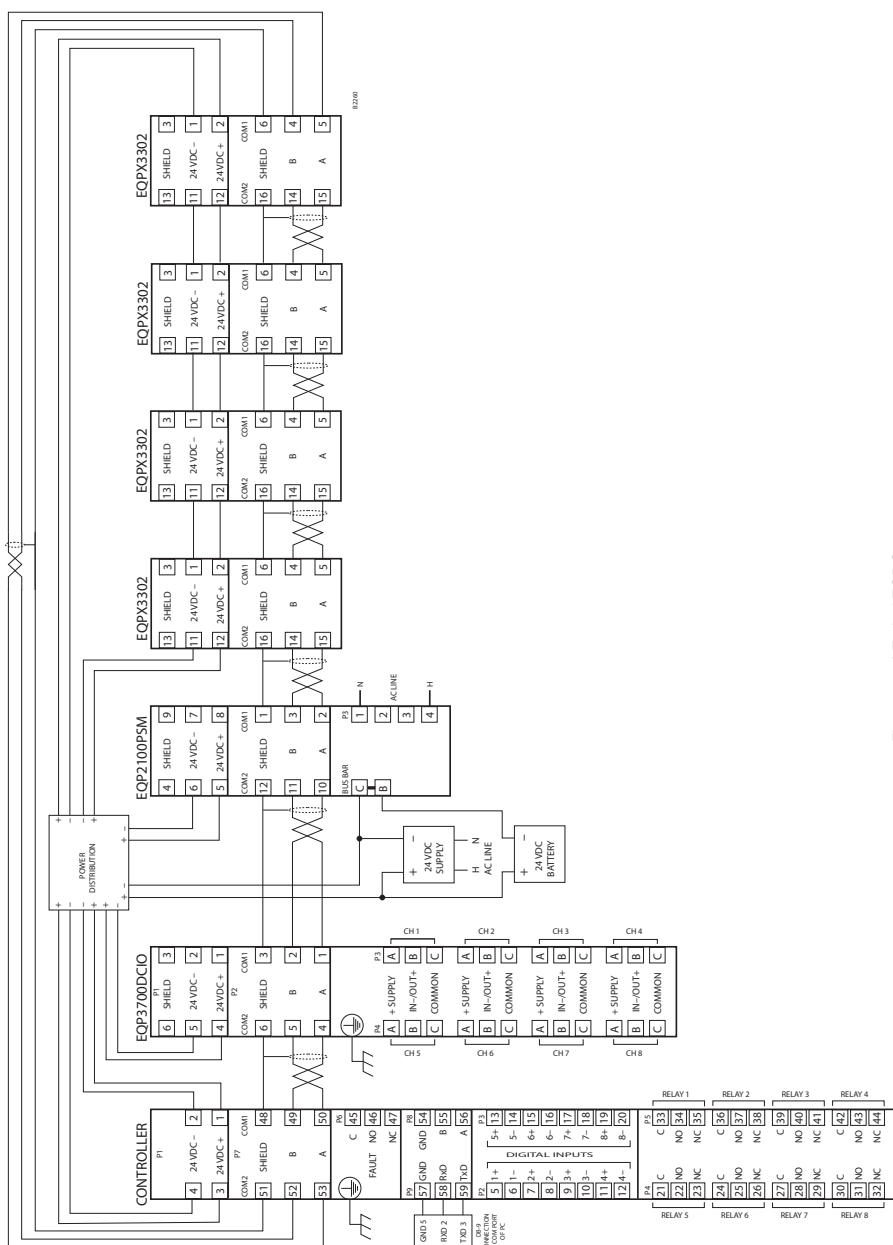

Figure 15—X3302 Terminal Block (EQP Model)
1. Connect external wires to the appropriate terminals inside the device junction box, shown in Figure 15. See Figure 16 for terminal identification.